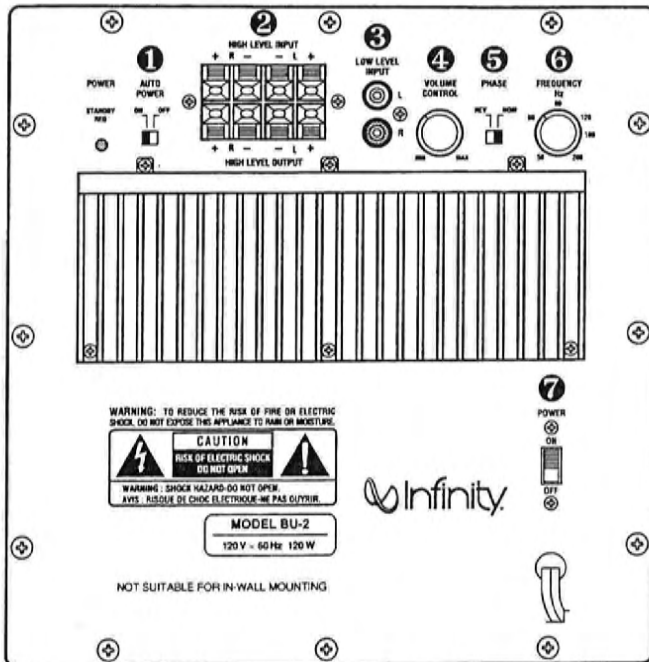

Figure 2
Refer to *Figure 2* to identify the controls of your subwoofer's internal amplifier:
1. Initially set the BU-2's Volume control **4** (*Fig. 2*) to 12 o'clock.
2. Initially set the BU-2's Frequency control **6** (*Fig. 2*) to 12 o'clock.
3. Slide the BU-2's Phase switch **5** (*Fig. 2*) to the "NOM" position (for normal polarity).
4. (Optional) Slide the BU-2's Auto Power switch **1** (*Fig. 2*) to the "ON" position (otherwise "OFF" defeats auto-sensing).
6. Turn the Volume control **4** (*Fig. 2*) to its mid position. If no sound emanates from the subwoofer after the auto-sensing system turns it on (i.e., LED goes from red to green), check the ac line cord and input cables. Are the connectors on the cables making proper contact? Is the ac plug connected to a "live" receptacle? Once you have confirmed that the subwoofer is active, proceed by playing a CD, record, or cassette. Use a selection that has ample bass information.
7. Set the overall volume control of the preamplifier or stereo to a comfortable level. Adjust the subwoofer's Volume control **4** (*Fig. 2*) until you obtain a pleasing blend of bass. Bass response should not overpower the room, but rather be adjusted so there is a harmonious blend across the entire musical range. Many users have a tendency to set the
8. The Frequency control **6** (*Fig. 2*) sets the high frequency roll-off, adjustable from 50 to 200 Hz. Where you set this control depends on the low frequency capabilities of your satellite speakers, system placement, and other factors affecting the mid-bass region. Turn the control UP (clockwise) until you feel there is too much mid-bass information (around 100Hz) then back the control down a bit until that area sounds more natural. To hear more low bass, turn the Frequency control DOWN a bit and the Volume control UP by about the same amount. This will increase low bass while leaving the mid-bass sounding the same as it did before the adjustment. To reduce low bass without changing mid-bass, turn the Frequency control UP and the Volume control DOWN. Alternately slide the Phase switch between "NOM" and "REV" positions while listening to music. The selection that sounds the best is the correct adjustment for your system.